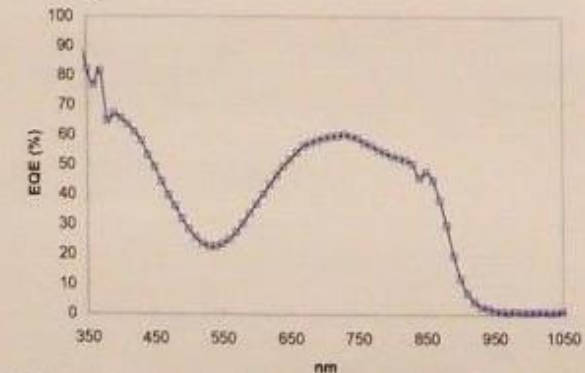

Figure 2. NIR External Quantum Efficiency of PDPP3T devices.
- Figure 2 is the external quantum efficiency (EQE) analysis for the NIR device using PDPP3T material served as active layer.